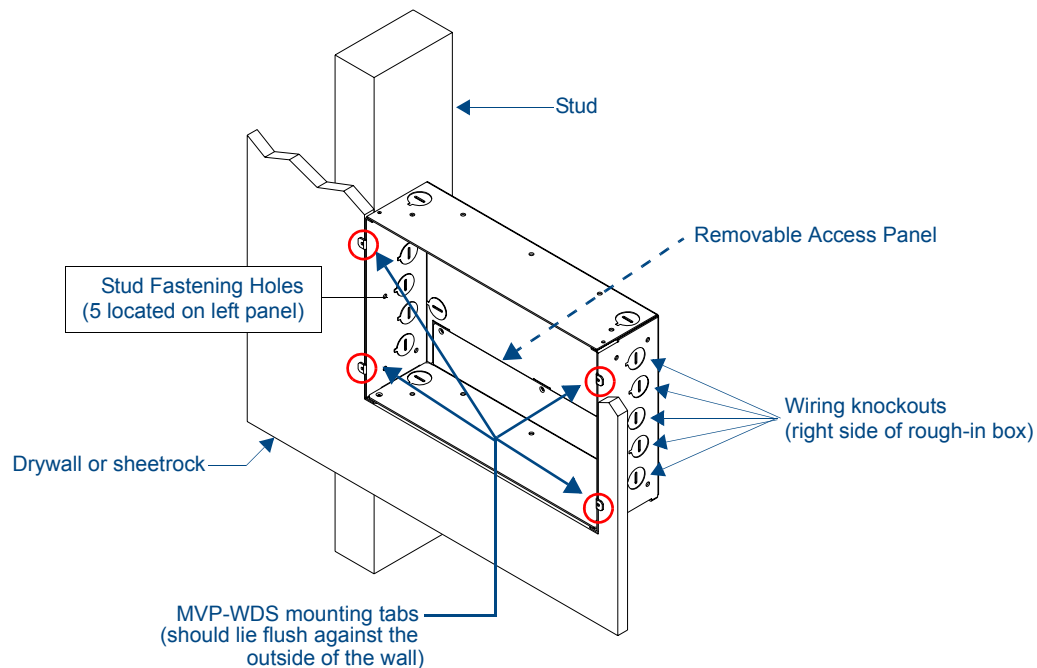

FIG. 3 CB-MVPWDS rough-in box components
When mounting the rough-in box, the MVP-WDS Mounting Tabs must lie flush against the outside of the sheetrock (FIG. 3).
1. Place the left side of the rough-in box on a stud, making sure that five Stud Fastening Holes and removable Access Panel are oriented correctly (installation dependent). Be sure to leave enough of a gap between the stud and Mounting Tabs to accommodate the installation of the drywall or sheetrock after the rough-in box has been mounted. Ultimately, the Mounting Tabs should lie flush against the outside of the sheetrock (FIG. 3).